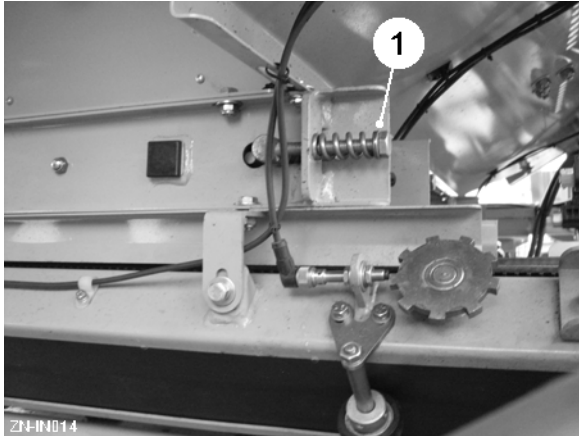

Fig 23
The hopper belt and singulating belt tensioners are spring-loaded. To tension the belts, turn the spring adjuster bolt (item 1, fig 23) clockwise to increase the tension, or anti-clockwise to decrease the tension.